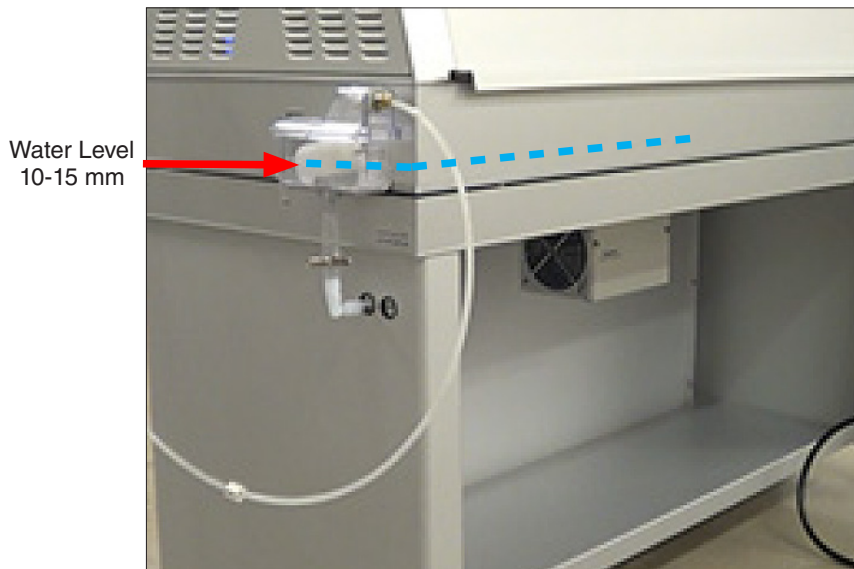

Figure 6.4d: Water level for all models without spray.
- The water level in the water pan should be 10 mm to 15 mm high (Figure 6.4d).